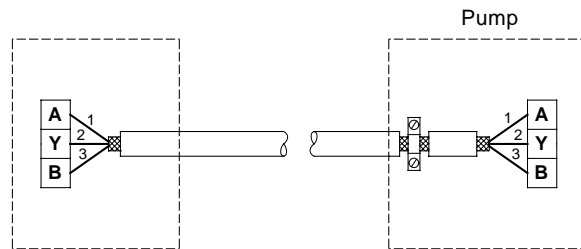

Fig. 13 Connection with screened 3-core cable
- If the unit has no cable clamp as shown in fig. 13, the screen is left unconnected at this end.